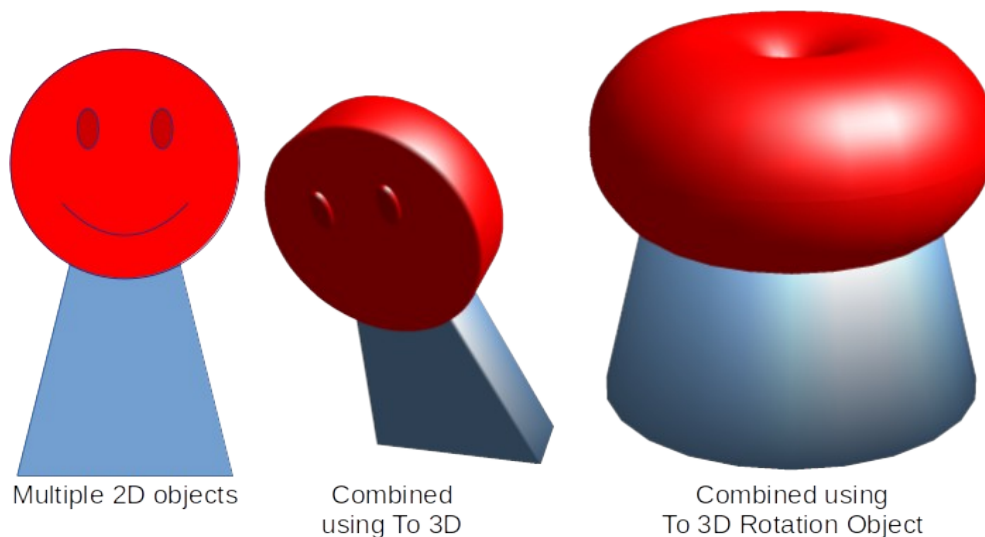

Figure 27: Example of creating single 3D object from multiple 2D objects
- 3) Create a single 3D object combining the multiple 2D objects using one of the following methods (example conversions are shown in Figure 27):